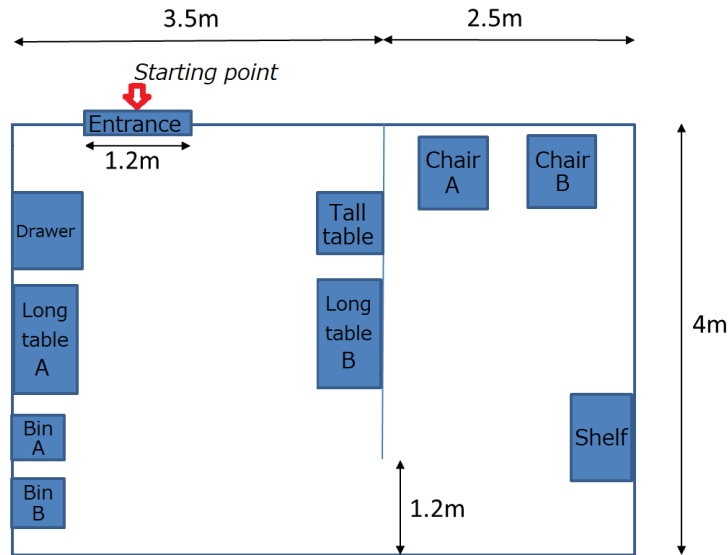

Figure 2: Test arena layout. The red arrow indicates the starting point at the beginning of the competition or after a restart.
- The room layout and furniture positions will be as in as in Figure 2 and the furniture models are presented in Appendix 4.1.